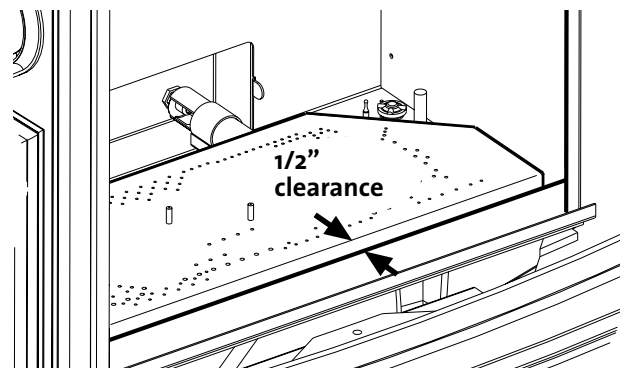

Figure 25. Correct Burner Position.
10. **Replace the Burner Plate.** Engage the burner tube with the Air Shutter assembly as in fig. 25. Be sure the burner is securely engaged with the two support brackets at the front of the firebox and push the plate back toward the rear of the firebox. When correctly positioned, there will be 1/2" (13 mm) clearance between the burner plate and the front of the firebox. See fig. 25.